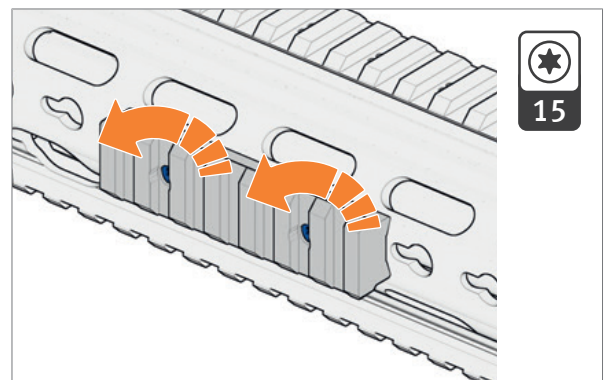

Fig. 38: Loosen screws for Picatinny rail
3. Loosen screws for Picatinny rail by turning anti-clockwise with torque wrench (Fig. 38).